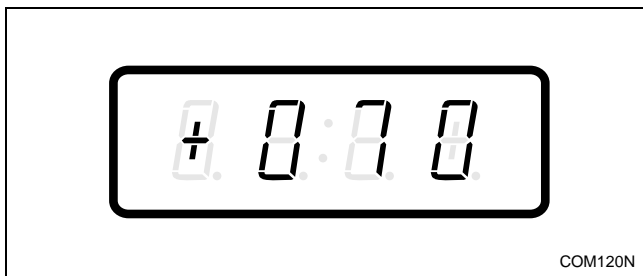

Figure 91
- Press the DELICATES (+) or the COLD (-) keypad to scroll through the programmable options until “+070” appears in the VFD. Refer to *Figure 91*.